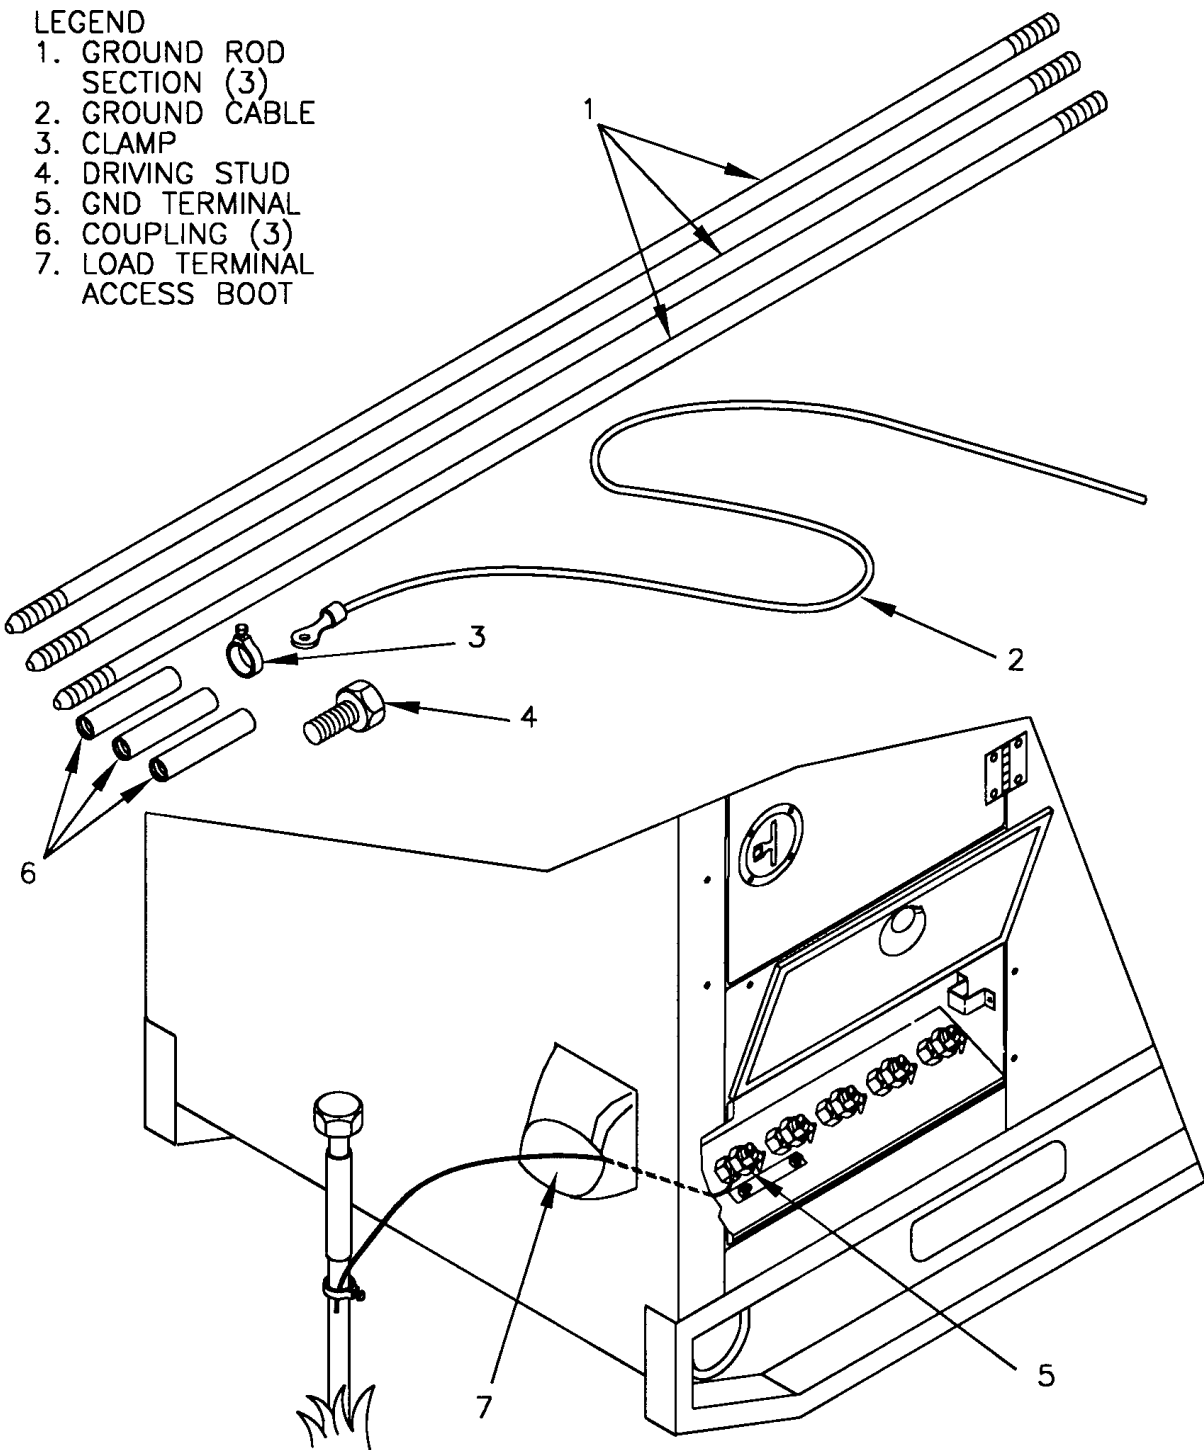

FIGURE 2-6. GROUNDING CONNECTIONS
- b. Insert ground cable (2, Figure 2-6) through load terminal access boot and into GND terminal (5) on load output terminal board. Tighten terminal nut.